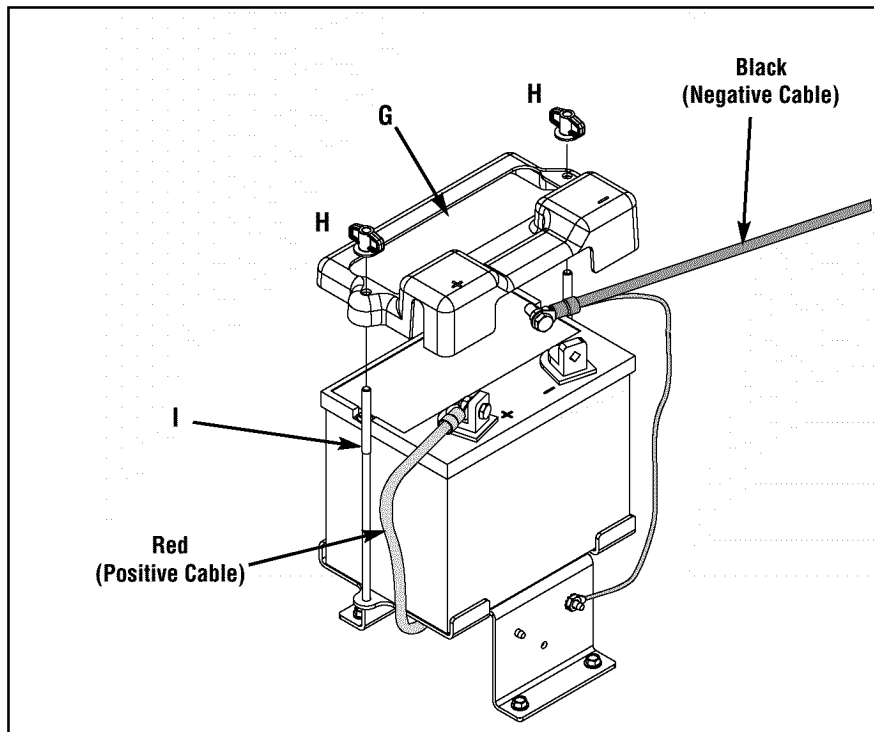

Figure 2-3: Connect wire terminals to battery terminals.
1. Remove the plastic battery cover (G, Figure 2-3) by unthreading the two wing nuts (H, Figure 2-3) which secure it to the battery hold-down rods (I, Figure 2-3)
2. Remove the hex bolt and hex nut from the ground cable / heavy black wire (E, Figure 2-3).